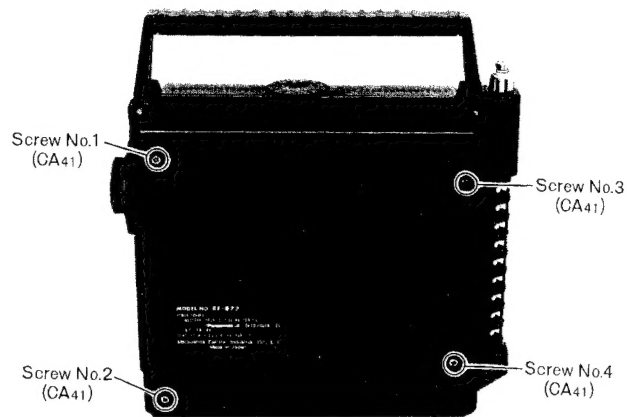

Fig. 1
3. Remove four (4) cabinet cover screws, nos. 1~4, as illustrated in fig. 1.